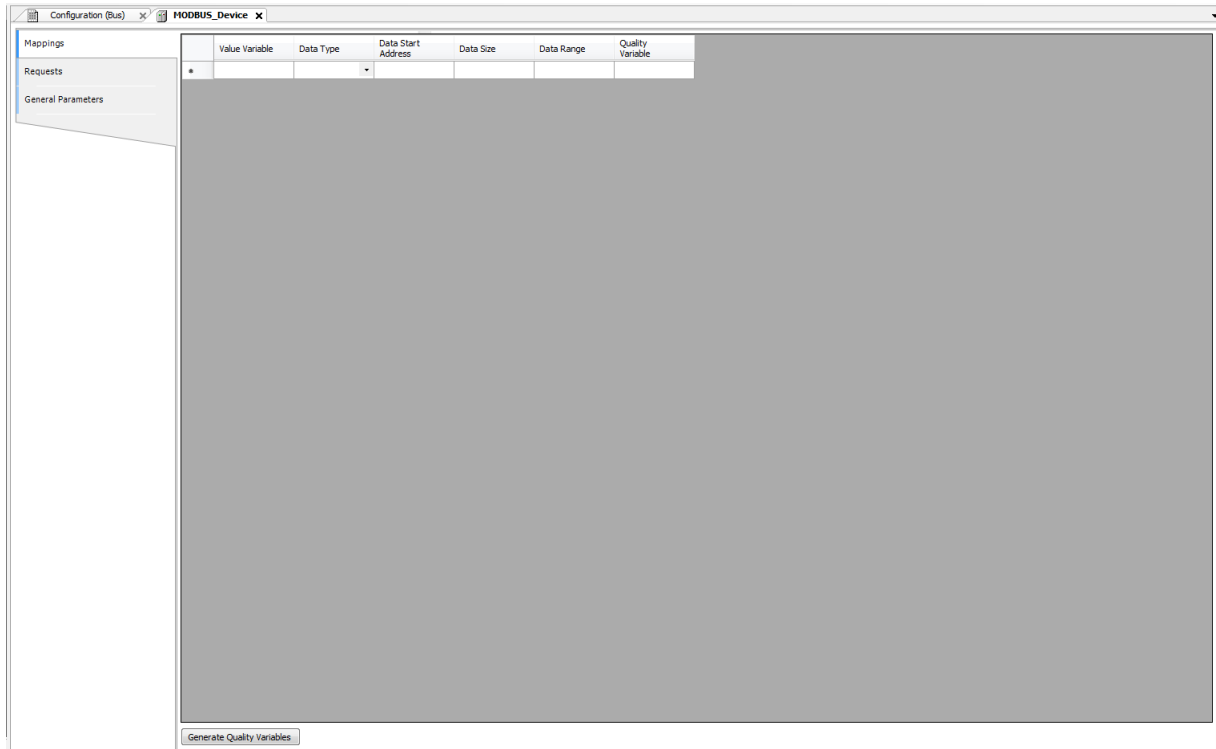

Figure 49: MODBUS Data Mappings Screen
- Add and configure the MODBUS mappings on Mappings tab as Figure 49, specifying the variable name, data type, and the data initial address, the data size and range are filled automatically.